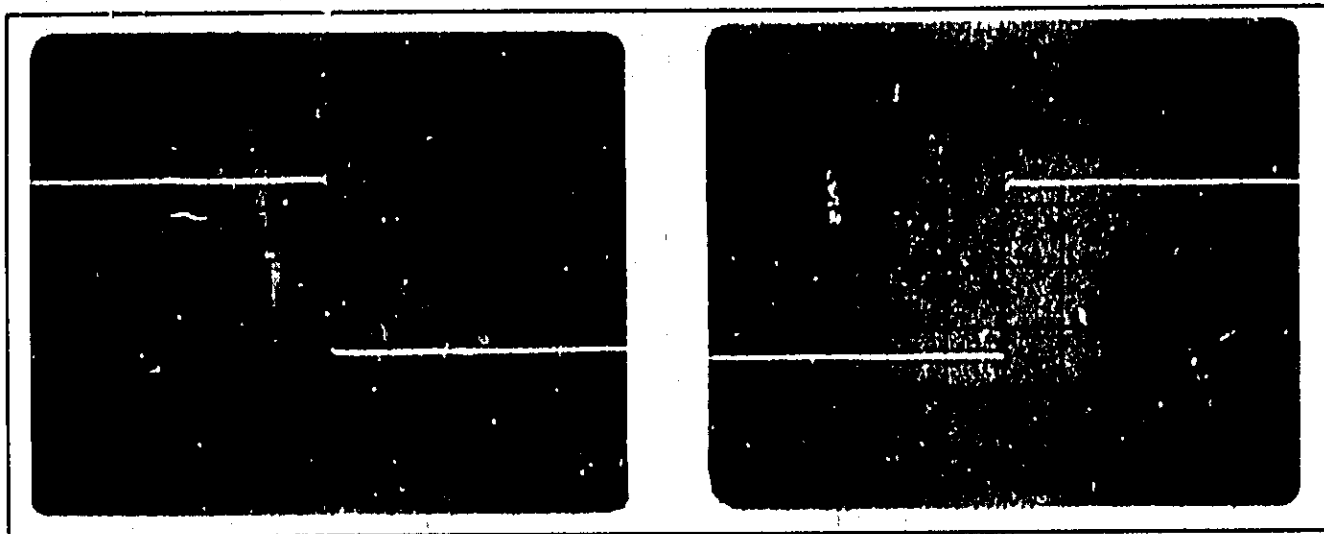

Figure 5-4. Phase Detector Symmetry Adjustment: Positive and Negative Half-Cycles.
j. Adjust A13R16 (A SYMMETRY ADJUST) until the positive and negative halves of the square wave are exactly equal in duration (see Figure 5-4).